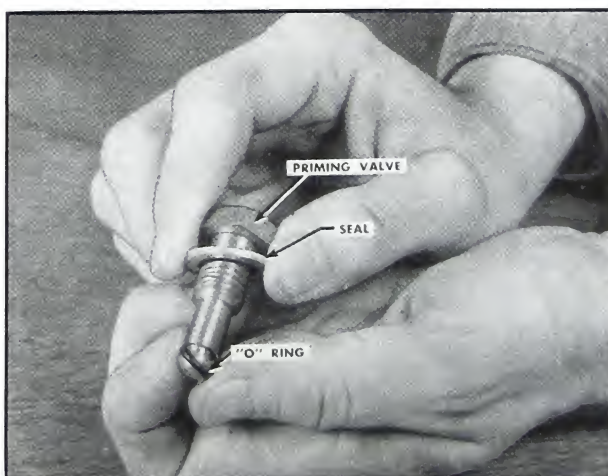

Fig. 5-236. Replace priming valve "O" ring
PRIMING VALVE: 1. Remove the priming valve. Fig. 5-236.
2. Replace the priming valve "O" ring and coat with Lubriplate or other high pressure lubricant. Fig. 5-236.